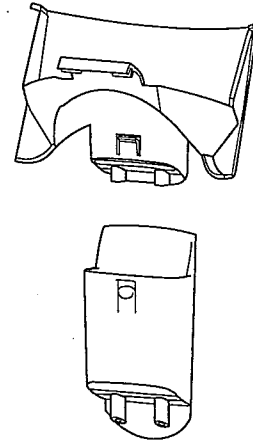

FIGURE 15
2. Remove the Drip Spout Extension from the Front Panel. Press the Tab on the back side of the Drip Spout Extension to disconnect. See Figure 15.
3. Remove and disassemble the Spout System: Removable Front Panel and Drip Spout Extension. To separate the Front Panel and Drip Spout Extension, press the Tab on the back side of the Drip Spout to remove, see Figure 15.